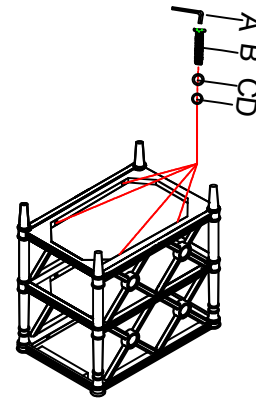

Figure 7
8. To level the table, please adjust the levelers accordingly. As show in Figure 7.